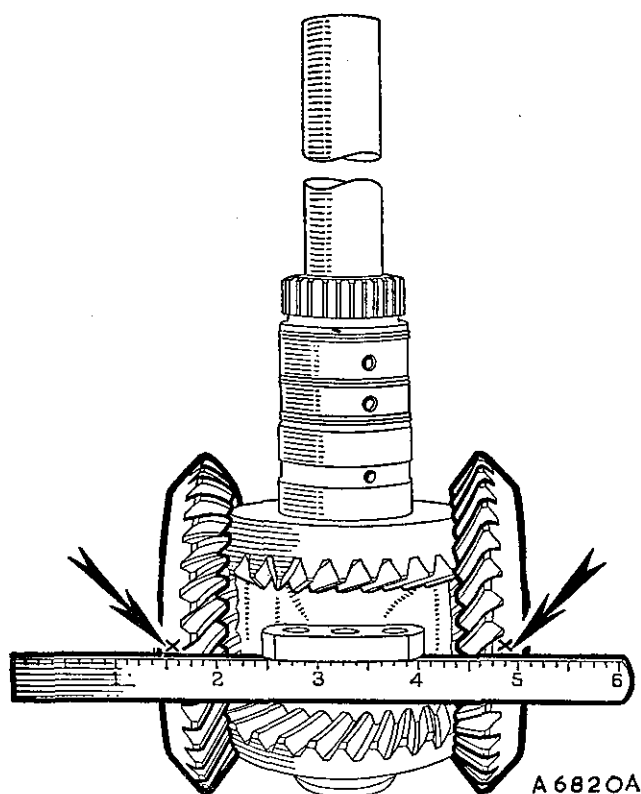

Fig. Fa.45
- (21) Insert Service tool 18G 1093 A through the forward output gear and the assembly to ensure correct alignment.
- (22) Check and reset the timing of the gear train (see Fig. Fa.45) by rotating the planetary gears until the timing marks are in alignment.
- (23) Retain the timed position of the gear train and refit to the carrier ensuring that both timing marks align with the dowel surface of the carrier.
- (24) Refit the planetary gear needle-roller bearings and tap in the spindles (with the hole on the centre of the spindle facing downwards).
- (25) Insert a ball into each spindle and screw in the locking screws. Refit the locking screw circlips, end covers, and the cover circlips.